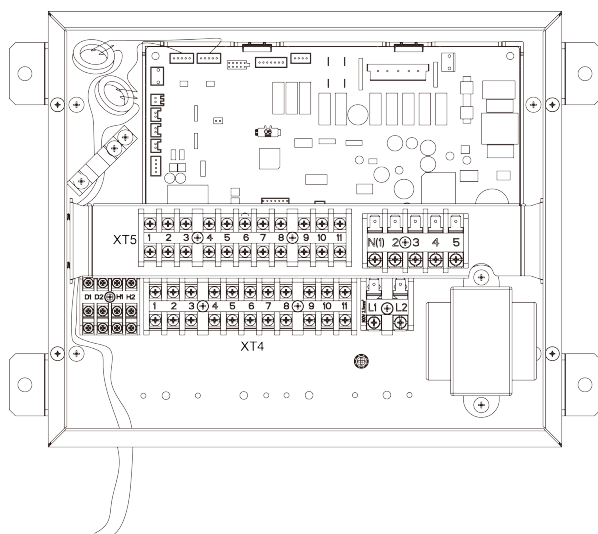
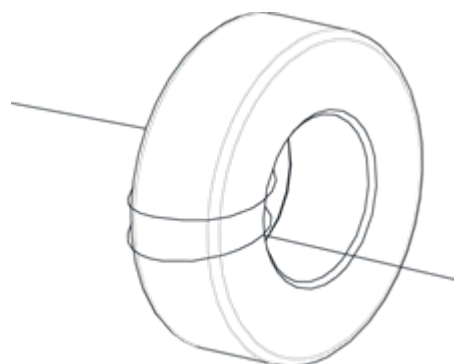

Fig.4.2.2
Fig.4.2.3
- (1) Making the cable terminal through the Cable-Cross Loop (Fig.4.2.2), and then winding the cable on the magnetic ring for three times(Fig.4.2.3), at last inserting the terminal into a corresponding slot(see circuit diagram).
- (2) Using bundles to fix the magnetic ring is required. It's also need to insert the bundle into the reserved hole on the control box.
- (3) Fixing the cable with the wire clamp, and tightening the Cable-Cross Loop.
- (4) Fix the magnetic ring to the reserved hook fixing inside electrical box with high-temperature bonding tie.
- (5) Screw the joint.